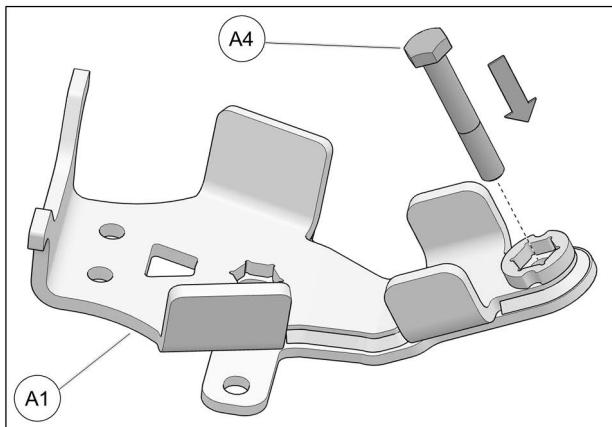

Fig. 13
4. Insert M10x65mm bolt (A4) in front anchor brackets (A1). See Fig. 13